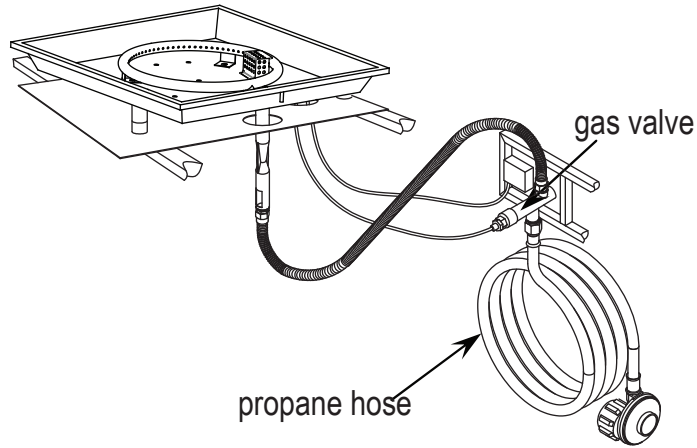

Figure 13
1. Disconnect the propane hose from the gas valve (see Figure 13).